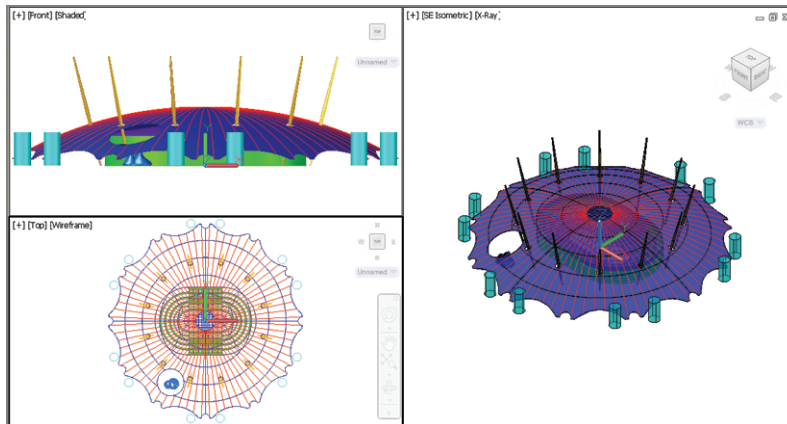

FIGURE 16.9 Three viewports, each displaying a different view and visual style
3. Click anywhere inside the viewport showing the front view to activate it. Open the in-canvas Visual Style Controls menu in this viewport and select `Shaded`. Click anywhere inside the viewport showing the top view to activate it. Open the in-canvas Visual Style Controls menu in this viewport and select `Wireframe`. Click OK. Figure 16.9 shows the result.